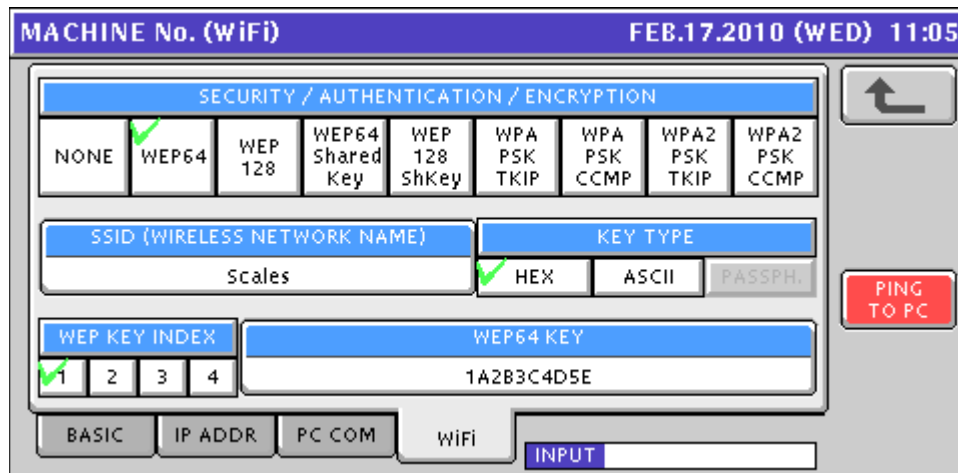

Figure 67. Confirm Complete WiFi Settings before Exit and Save
- r. Wireless settings are now complete. See Figure 67.